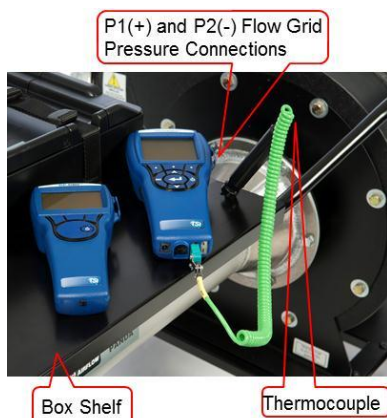

Figure 10. Connecting Instruments to PANDA Tester in High Flow Mode
3. Connect the Model 9565-P to the PAN231 by connecting the (+) and (-) ports on the Model 9565-P to the **P1 (+)** and **P2 (+)** ports located on the inside edge of the box shelf facing the fan. See Figure 10.